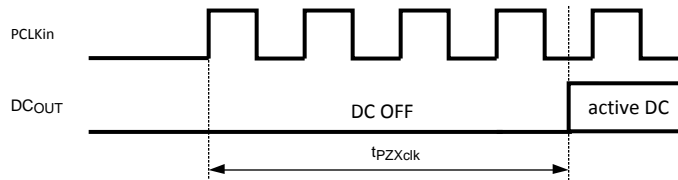
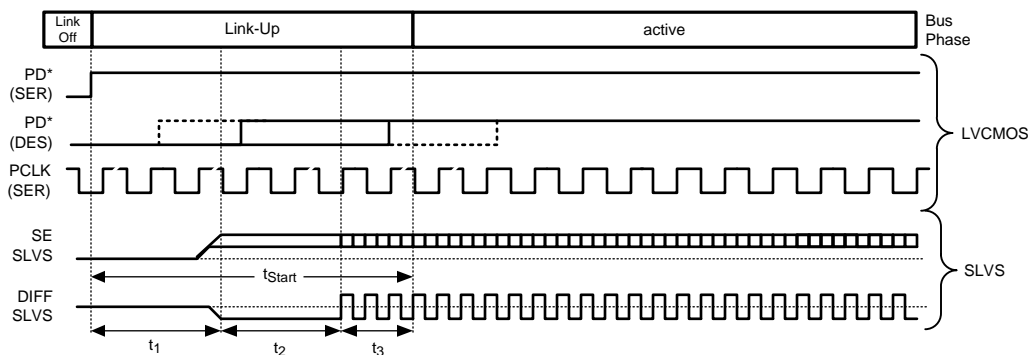

Figure 4. Stop Pixel Clock (PCLK) Power Up
Figure 8. MPL-2 - LM4312 Link Up Timing
| $t_{PZclk}$                    | Enable Time - Clock Start           | PCLK to DC OUT <a href="#">Figure 4</a> , <a href="#">Figure 8</a> |     | See (5) |     |             |
(1) Typical values are given for  $V_{DD} = 1.8\text{ V}$  and  $T_A = 25^\circ\text{C}$ .
(2) 1 UI is the serial data DD pulse width =  $1 / 12 \times \text{PCLK}$  (18-bit mode), 1 UI is the serial data DD pulse width =  $1 / 16 \times \text{PCLK}$  (24-bit mode)
(3) Specification is ensured by design or characterization
(4) MPL-2 serial link transition time is measured from 20% to 80 %.
(5) Enable Time is a complete MPL-2 start up  $t_1 + t_2 + t_3$ . See also Figure 8.
Link-Up is shown in Figure 8. The DC and DDn signals are shown both as single-ended and differential waveforms.